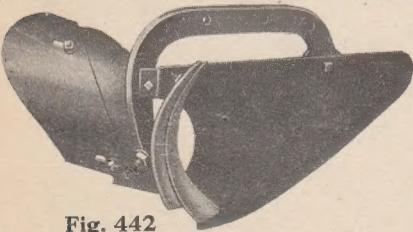

Fig. 442
- No. 400LW —(No. 400L with wide plow, Fig. 442, page 8)....